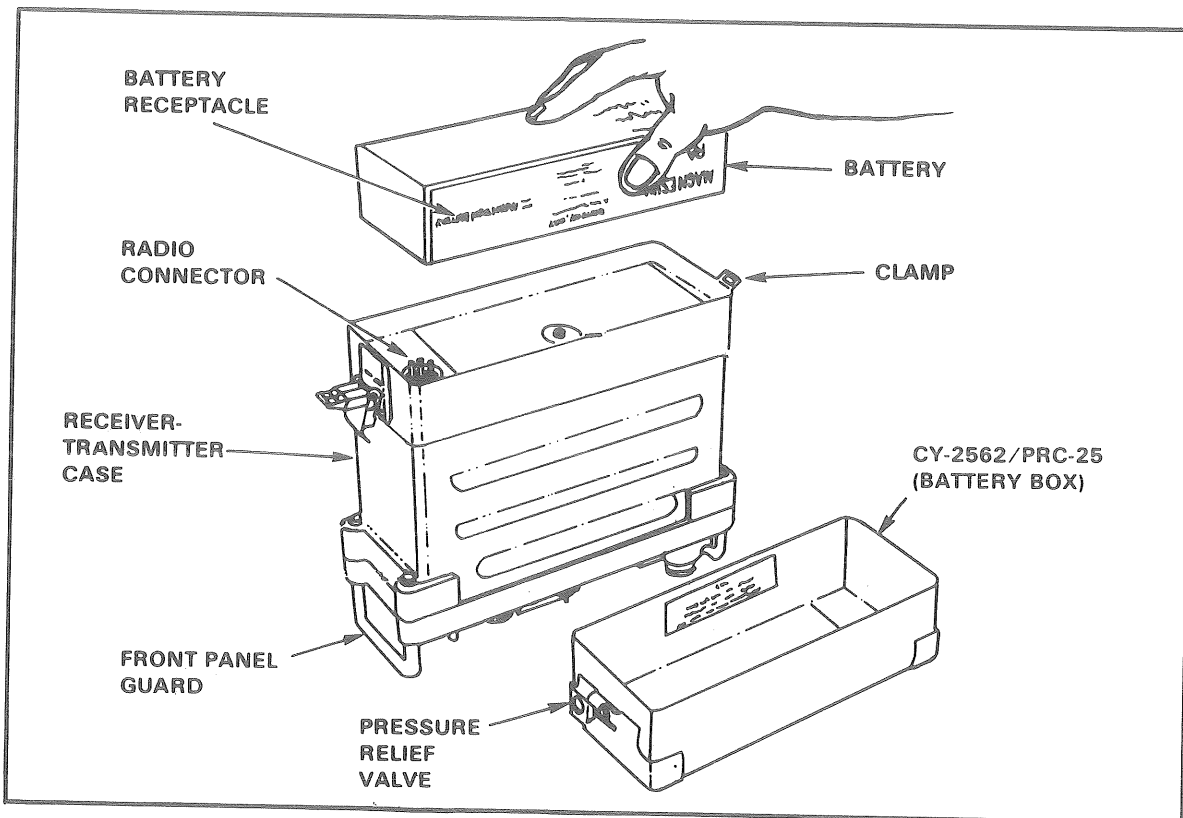

Figure 1. Installing battery in receiver-transmitter.
- a. Release the two clamps (fig 1) and remove the battery box.
- c. Check the function of the pressure relief valve (fig 1) by blowing and then sucking through the valve. The valve must allow venting of the battery box.